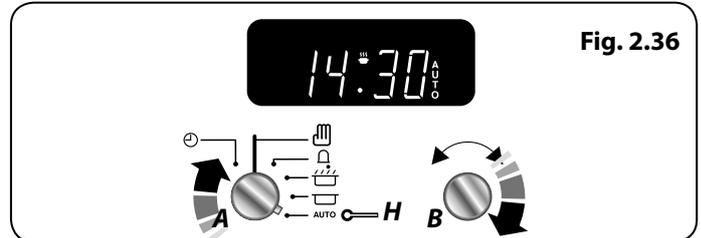

Fig. 2.36
3. Continue to turn the **Adjusting (B)** knob to the amount of time required e.g. 1 minute. The display will show the current time plus the required length of time you have set (**Fig. 2.36**).
4. Turn the **Timer (A)** knob to the **Auto (H)** setting. The display will show the current time, the Cooking symbol and the word 'AUTO' (**Fig. 2.36**).